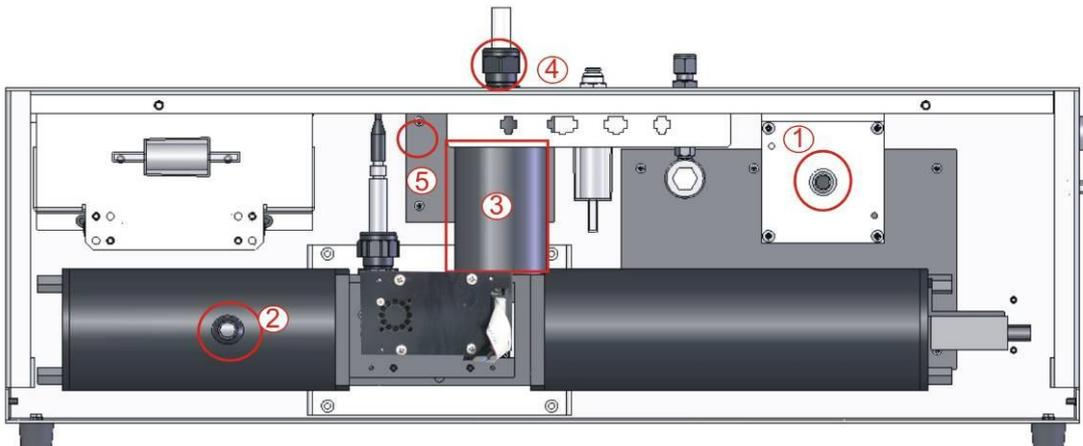

Figure 44 Internal pneumatic tubing
2. Remove black exhaust tubing from the exhaust fan (1) and the optical chamber (2) as shown in Figure 44
3. Unscrew the black gland on top of the instrument (4)
4. Remove the sample heater from its connector (5) and gently pull the main inlet down until it is out
In order to clean all parts of the optical chamber, then optical chamber should be completely removed from the instrument. Refer to Figure 44 above. This procedure should include the step for cleaning the Measurement cell as in section 6.3.2.